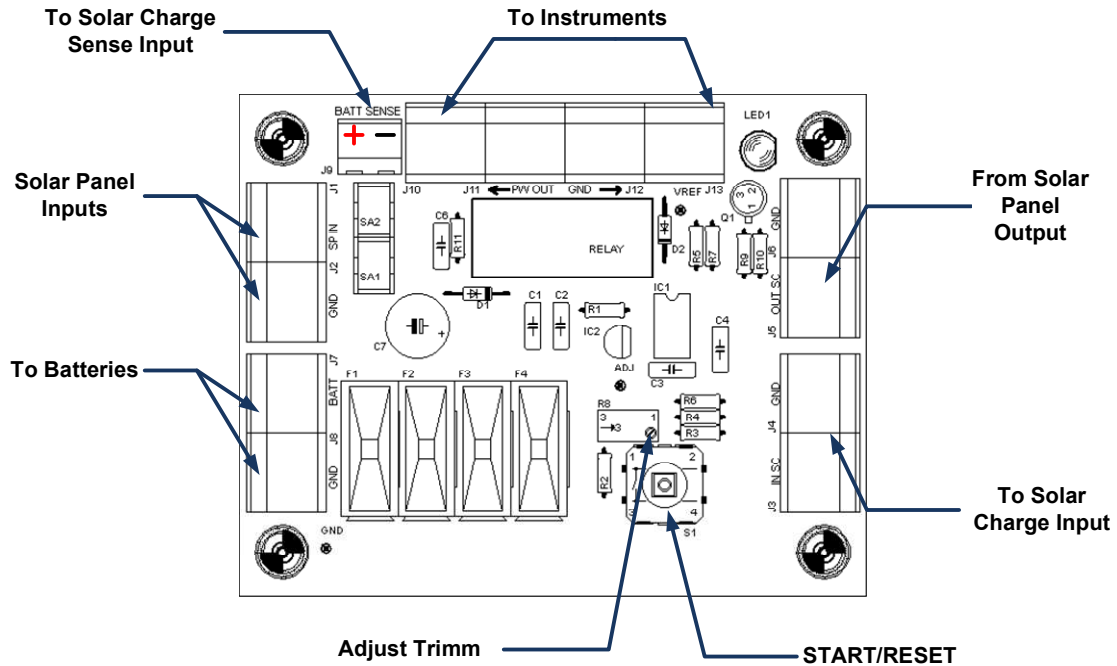

Figure 1.2 – Energy distribution and protection board.
This board, shown in the figure 1.2, must to be calibrated before be installed. For calibrate, use one voltmeter, one (0 – 15Vdc) power supply and cables; follow the instructions:
- c) Measure voltage at VREF pad, and ADJ pad (see figure 1.2). ADJ voltage is your cut off voltage and VREF the comparator set voltage, take note about VREF voltage;